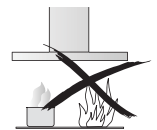

Fig. 2
- Do not leave lit gas burners exposed due to the risk of fire. (Fig.2)